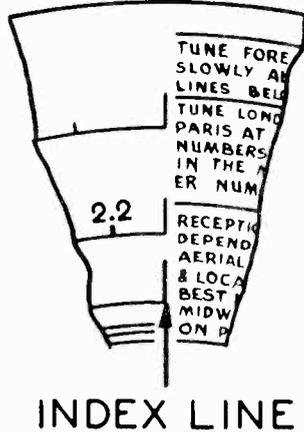

Fig. 4. Dial Calibration
1. Loosen the set screws on the shaft coupling of the tuning condenser. Then turn the tuning condenser until the plates are in the maximum capacity position. Now turn the dial until the glowing beam indicator is on the INDEX LINE at the low frequency end of Range 2. See Fig. 4. With dial and tuning condenser in this position tighten set screws.